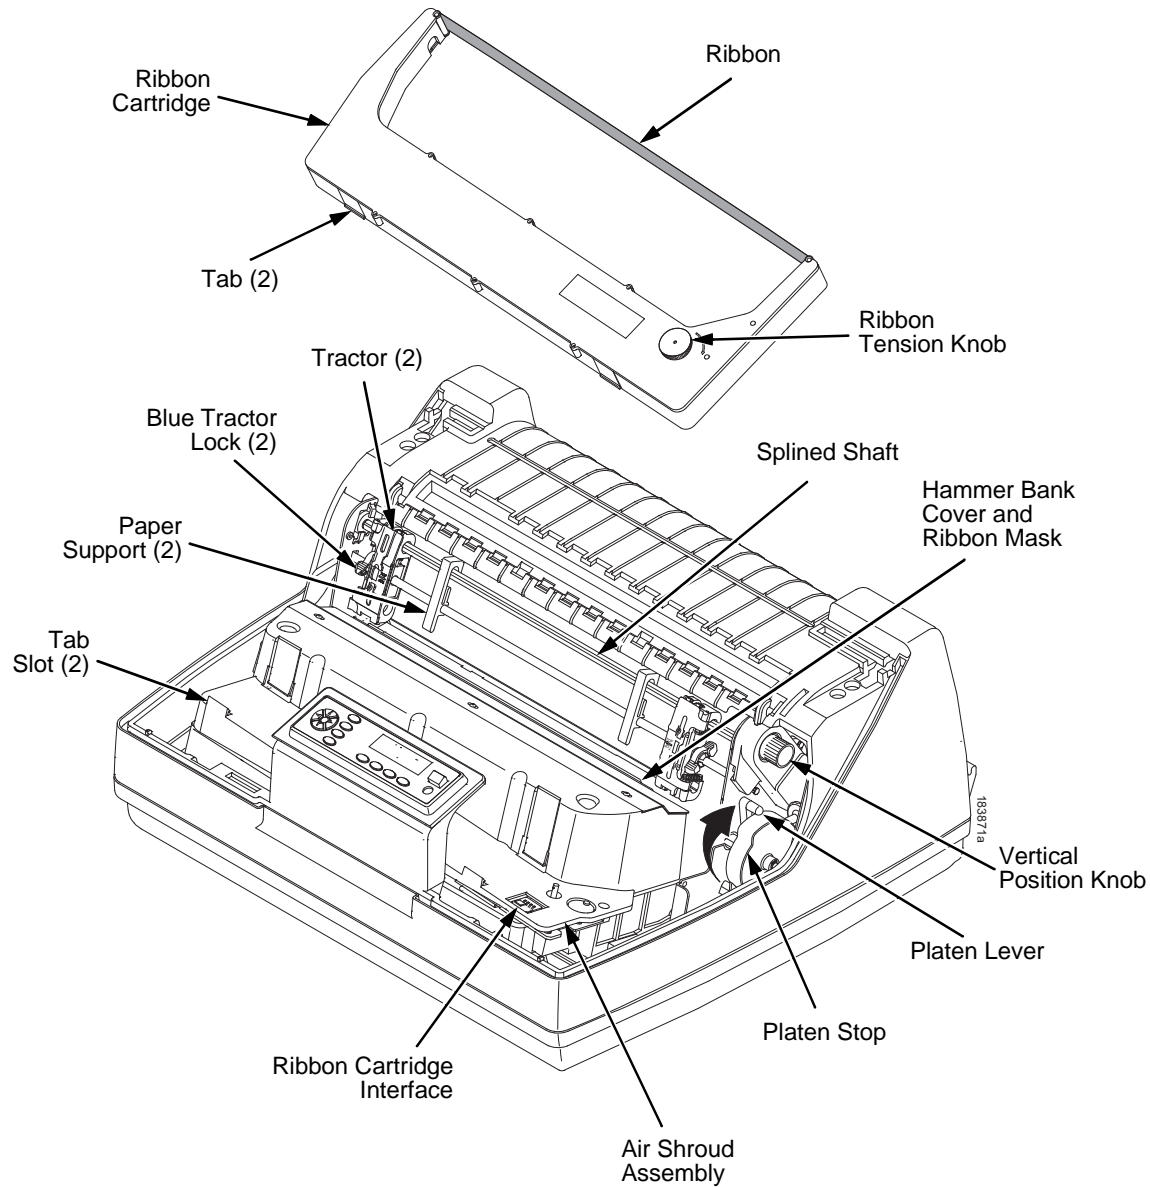

Figure 5. Printer Component Locations
1. Raise the printer cover. Raise the platen lever as far as it will go. (See Figure 5 on page 20 for the location of the lever.)
5. Pull the new paper above and behind the ribbon mask, but in front of the existing paper. See Figure 5 on page 20 for the ribbon mask location. If necessary, gently press the existing paper back.